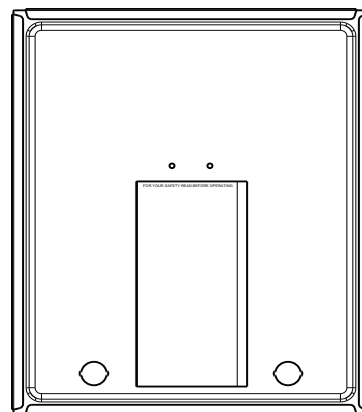

Fig. 30 – Information Booklet Location
4. Remove one of the unused rubber plugs in the port on the collector box opposite the condensate trap. See Fig 30
**NOTE:** Record the LED status code BEFORE removing the blower access door or turning off 115-v power to the furnace. See the information booklet inside the main furnace door for a service code legend (see Fig. 30).